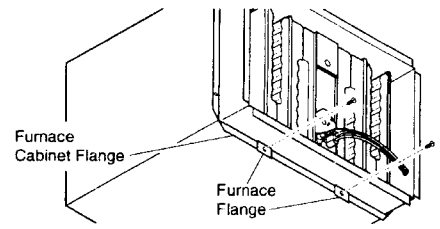

Figure 11 - Removing Screws on Lower Flange (40,000 BTU/Hr Model Shown)
2. Remove two screws on front lower flange that attach furnace flange to furnace cabinet flange (see Figure 11). *Note:* 40,000 BTU/Hr model has a bottom shield (see parts list, page 19, for location). Removing two screws will detach bottom shield.